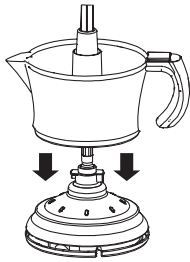
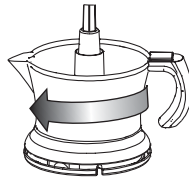

Fig.1
Fig.2
- Position the juice collector (G) onto the motor (I) (Fig. 1) and turn it clockwise until it clicks into place (Fig. 2).